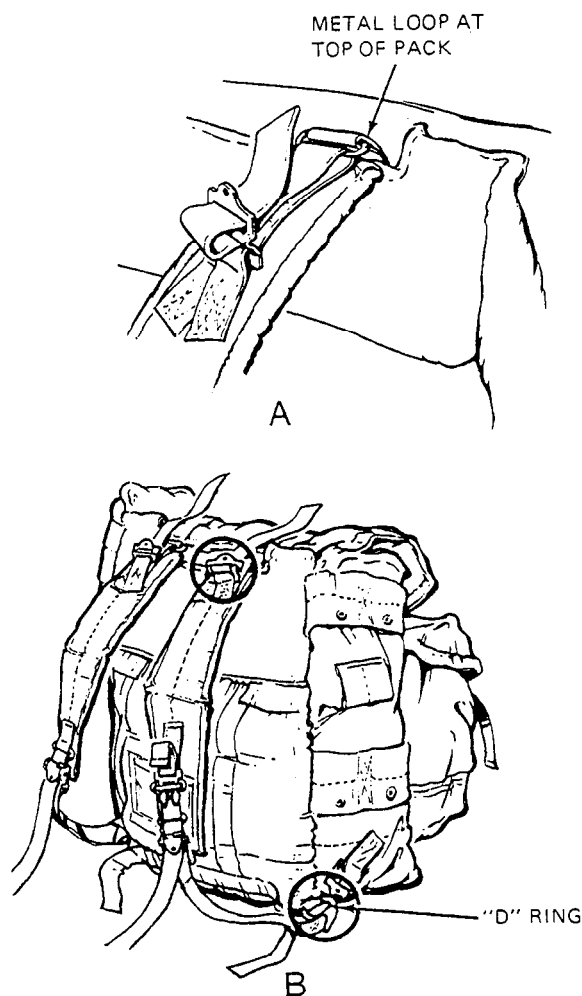

Figure 2-15.—Attaching shoulder straps to medium pack.
The medium pack is often carried using the shoulder straps without the pack frame, as shown in figure 2-15.
- Insert the webbing at the top of the strap through the metal loop on the top of the pack and pull it tight. (See fig. 2-15, view A.)
- Insert the looped end of the strap through the D ring at the bottom of the pack through the strap loop and pull it tight. (See fig. 2-15, view B.)